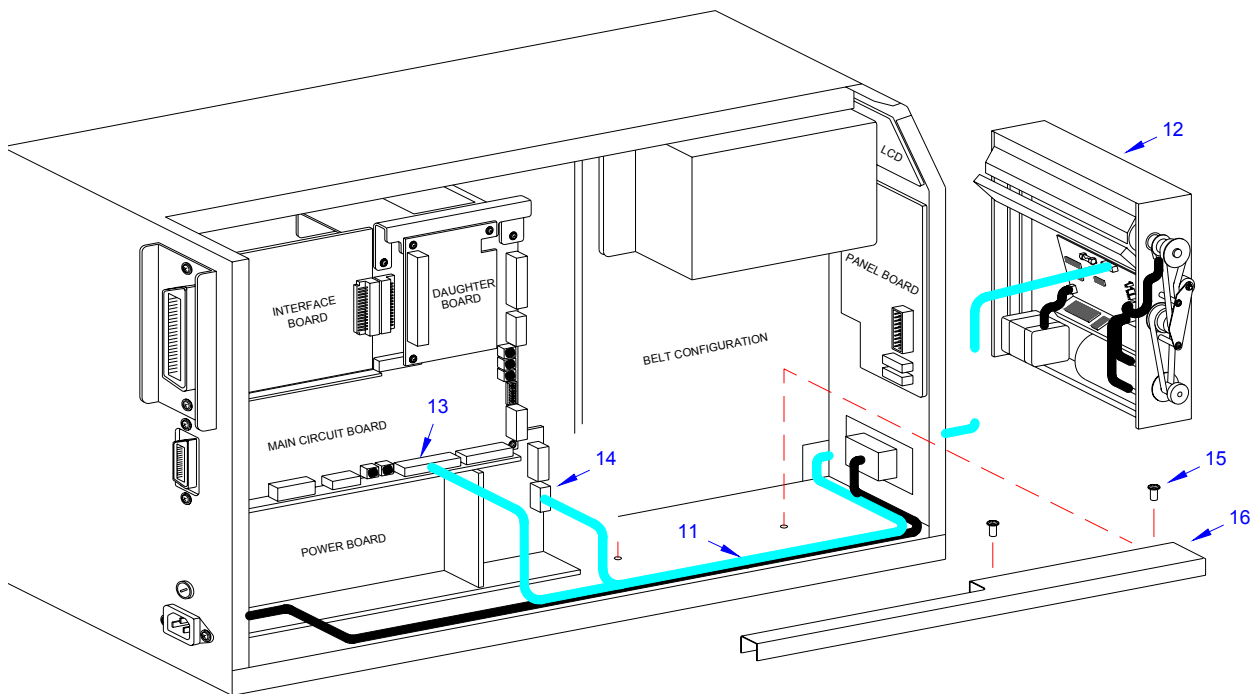

Figure 4-1c, Label Cutter Installation
- 11 Route the single connector end of cutter wiring harness (11, Figure 4-1c) through the printer side wall from the electric side to the mechanical side.